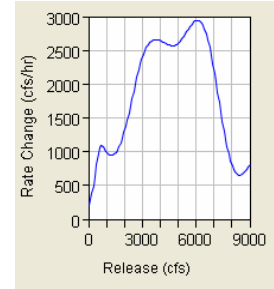

Figure 11.76 Cubic Interpolation Method
- **Cubic Interpolation** (Figure 11.76) will cause the program to interpret the table as a 3-point Cubic Spline curve. The interpolation between entered values is determined by the cubic spline function defined with each three consecutive rows in the table.